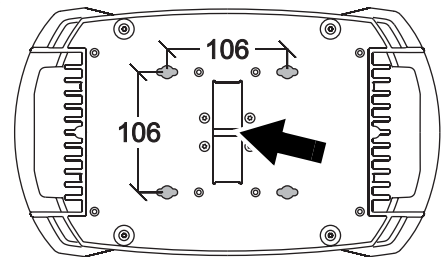

Figure 2: Safety cable attachment point
Warning! Attach an approved safety cable to the attachment point on the connections panel (see Figure 2).
Warning! The supporting surface must be hard and flat or air vents in the base may be blocked, which will cause overheating. Secure the fixture against falling. Attach a securely anchored safety cable to the safety cable attachment point (see Figure 2) if the fixture is to be placed above ground level in any location where it may fall and cause injury or damage.
3. See Figure 2. Align each of the two clamp brackets with two mounting points in the base. Insert the quarter-turn fasteners into the base and turn all levers a full 90° clockwise to lock.
5. Secure the fixture against clamp or bracket failure with a secondary attachment such as a safety cable that can bear at least 10 times the weight of the fixture using the attachment point in the base of the fixture (arrowed in Figure 2). This attachment point is designed to accept a carabiner clamp. Do not use any other part of the fixture as a safety cable attachment point.